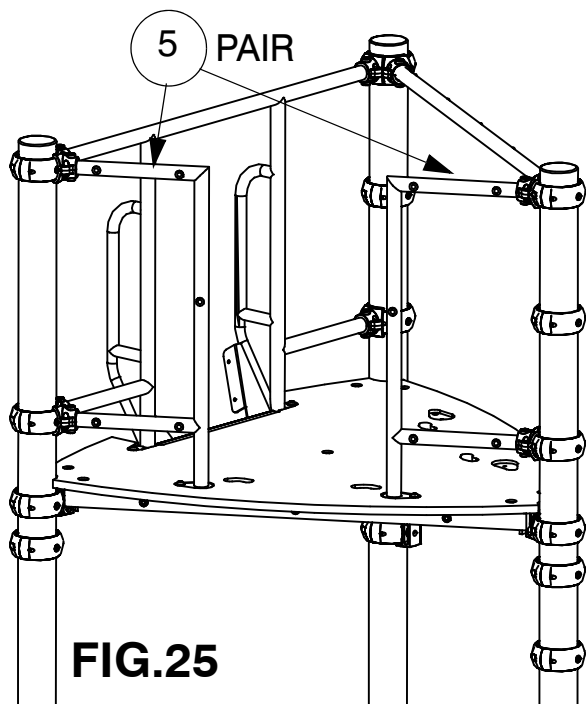

FIG.25
35) Attach 1 pair of Step Access Entry Frames (item 5) to the Clamp Rings that are 800mm above the Deck fixings. Also attach this to the lower 600mm centers Clamp Rings and through the Deck to the Deck Frame. Each of the Step Access Entry Frames is held between a Bar Socket Top (item 49) and a Bar Socket Bottom (item 48) using 2 off BHCS Fixings (item 81) and should be fixed with the plastic panel inserts on the outside of the structure. See FIG.25, 26 & FIG.C.
- ii) Attach each Step Access Entry Frame through Deck into Deck Frame using 1 off M10 x 40 Resistorx bolts (item 54) and M10 washers (item 65)